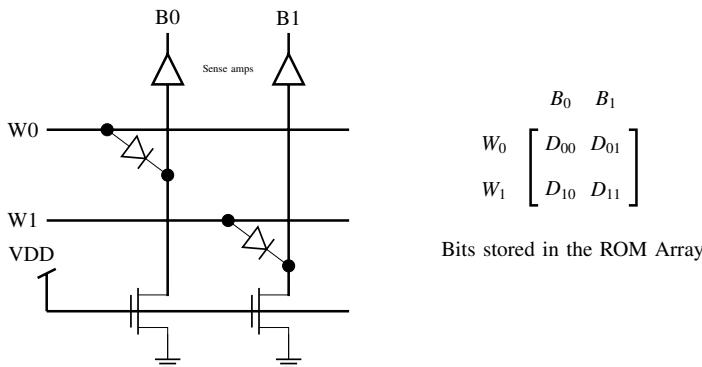

Fig. 3.30: 2×2 ROM array
48. A 2×2 ROM array is built with the help of diodes as shown in the circuit below in Fig. 3.30. Here W_0 and W_1 are signals that select the word lines and B_0 and B_1 are signals that are output of the sense amps based on the stored data corresponding to the bit lines during the read operation.